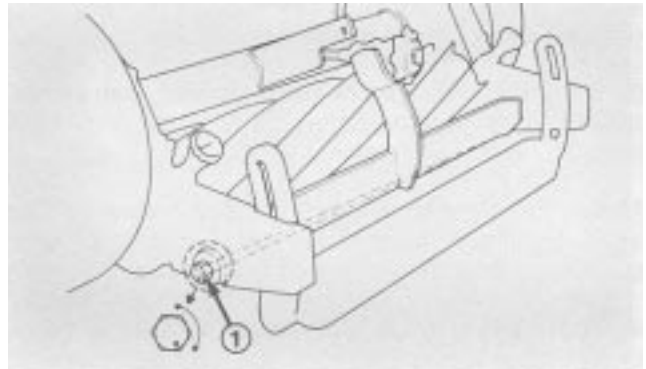

Figure 5
6. Parallel bedknife to reel by rotating the left bedbar pivot bolt (Fig. 5). The left pivot bolt has an offset thread which, when rotated, acts as a cam to raise or lower the bedbar. On the left hand pivot bolt there is an offset dot (Fig. 5) which denotes the thread of the bolt. When the dot is in the up position (Fig. 5) the left end of bedbar is raised. As bolt is turned clockwise and dot is lowered, so is the left end of bedbar. Identification dot is to be positioned within the rear (180°) position when adjusting.